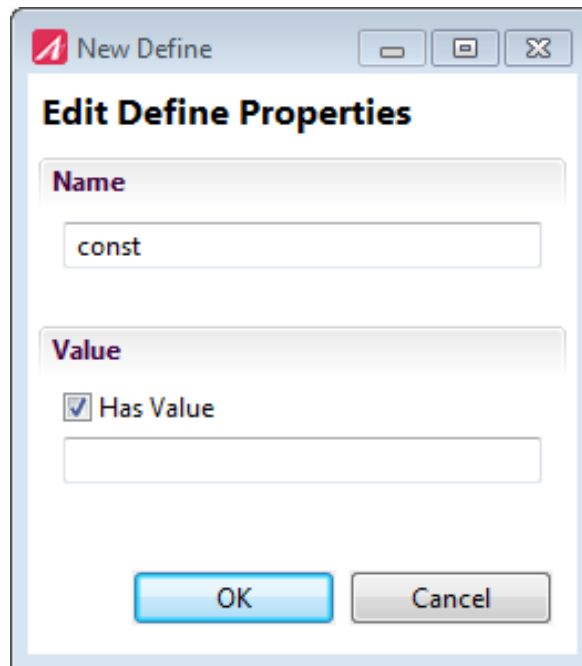

Figure 7.11: New Define popup window
- Enter a define with the name “const” and an empty value as shown below (see figure 7.11).